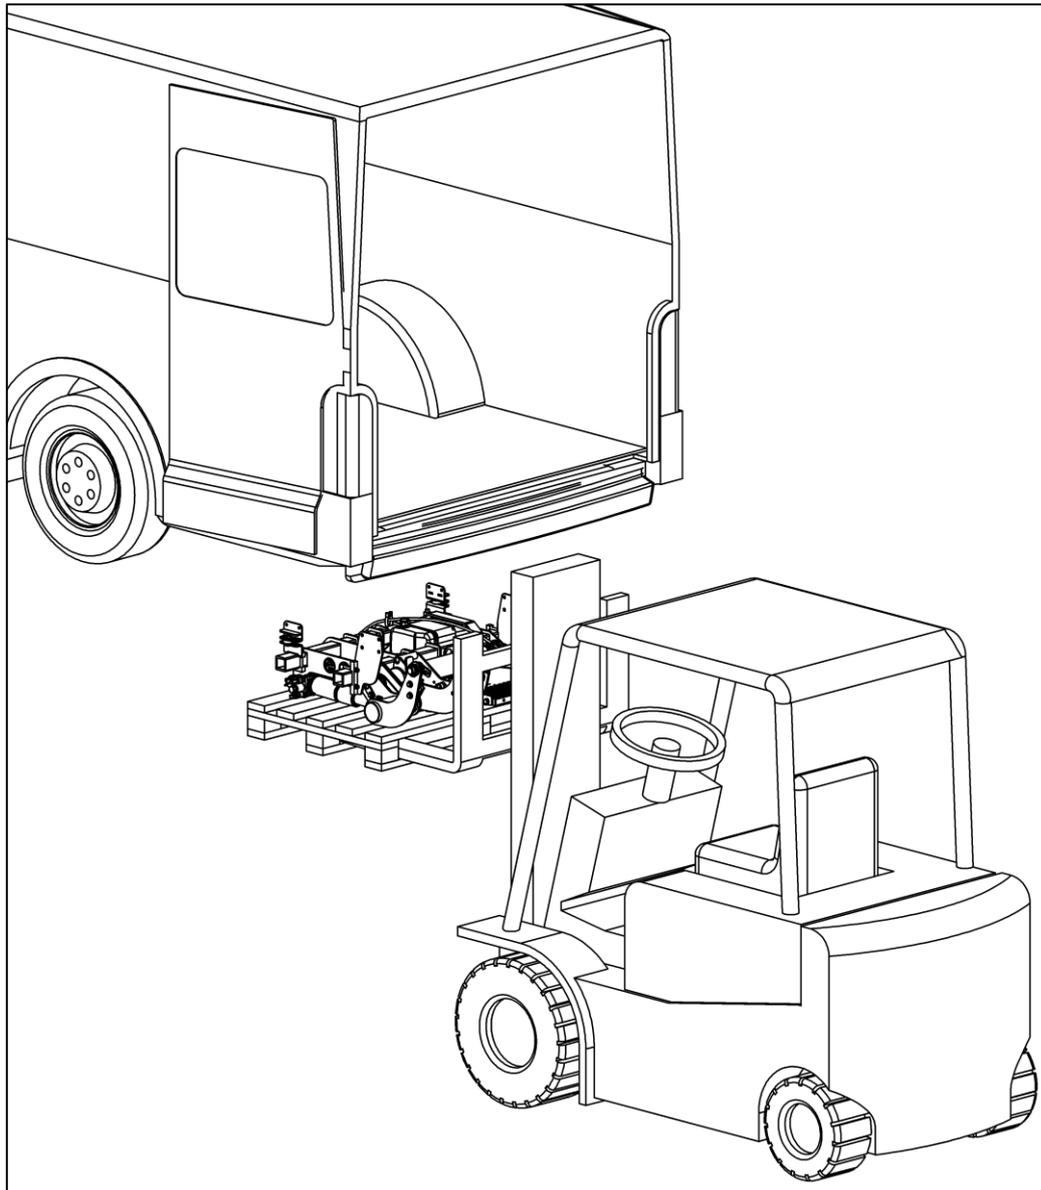

Fig. 28
- Place the prepared lifting gear (on a pallet) under the vehicle using a suitable means of transport, e.g. pallet truck, forklift, etc. (see Fig. 28).